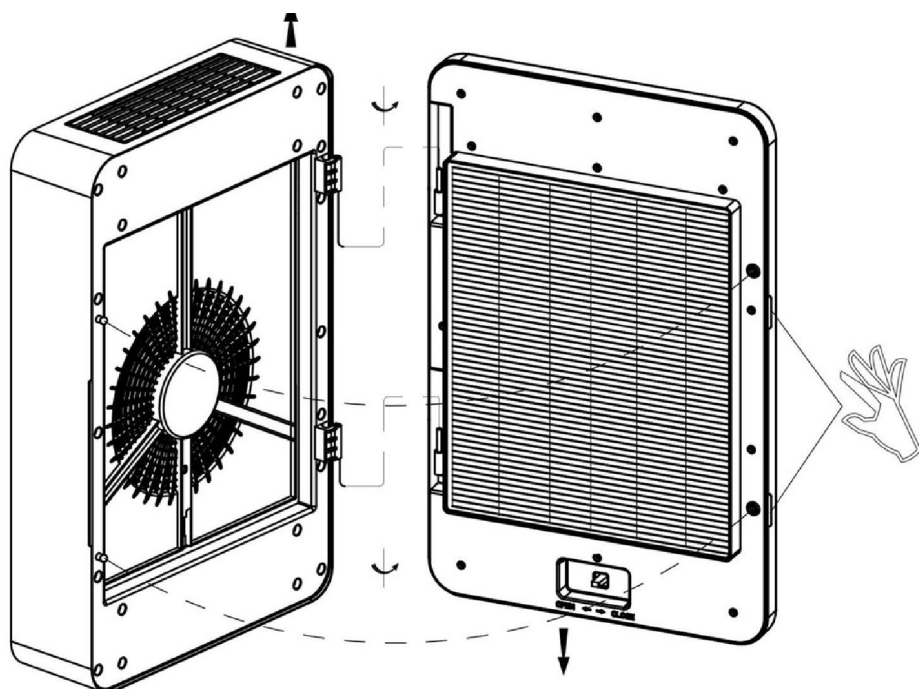

Figure 14
6.1 Align the two hinge holes on the main unit with the hinge shafts on the rear case, insert them into place, then rotate the main unit to fit the ball buckle on the main unit into the spherical hole on the rear case, ensuring the main unit and the rear case are completely closed. (As shown in Figure 14)
6.2 The maximum opening angle between the main unit and the rear case is 110 degrees. This design allows users to operate without removing the main unit, making it convenient to replace the filter or maintain the machine if the equipment is damaged. (As shown in Figure 14)